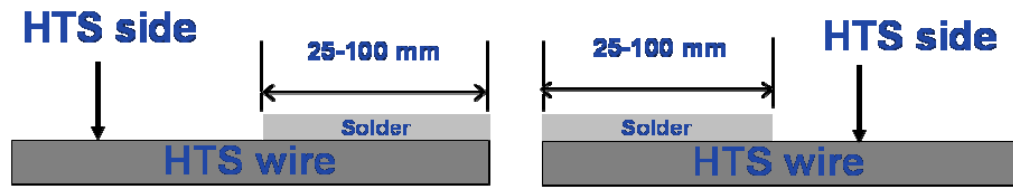

Figure 7. Tinned wires for Strap Splice Overlap Joints
- c) With the soldering iron set to the appropriate temperature, “tin” the fluxed portion of the wires with a thin coating of solder as shown below in Figure 7.